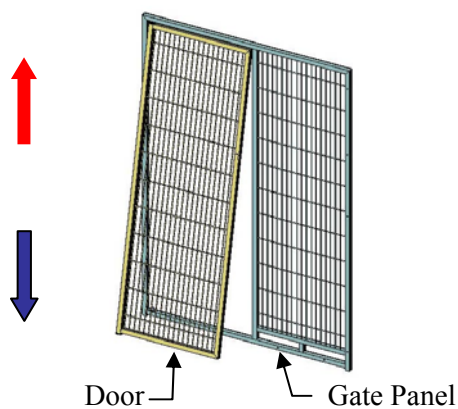

Figure 14
2. Locate the Gate Panels and remove the Door from each Gate Panel by slightly opening and lifting up on the door. Once the Door clears the hinge pin at the bottom, pull the bottom of Door toward you (**Figure 14**). Pull the top of the Door down until the top of the Door clears the top hinge pin.